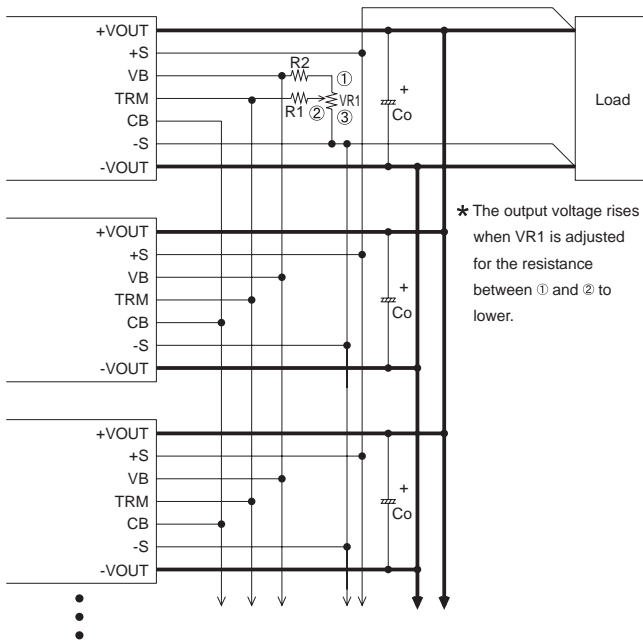

Fig.5.2 Examples of parallel operation
■Parallel operation is available by connecting the units as shown in Fig.5.2.